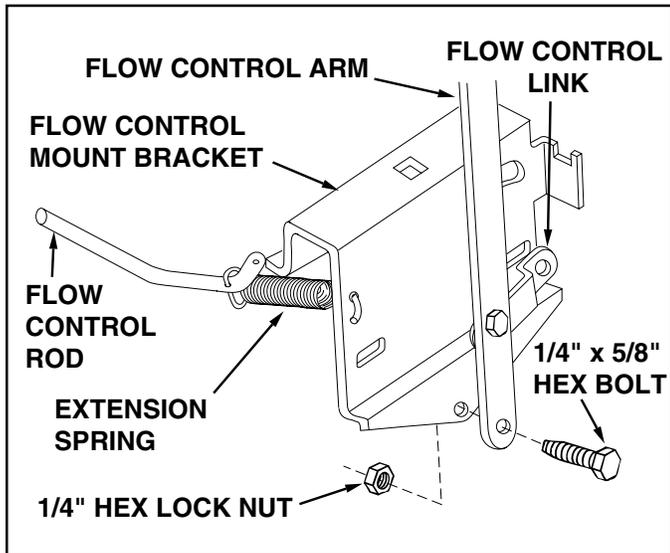

FIGURE 10
17. Assemble the flow control arm to the flow control mounting bracket using one 1/4" x 5/8" hex bolt and one 1/4" hex lock nut. See figure 10. **DO NOT OVER TIGHTEN.** The flow control arm must pivot freely.
18. Hook one end of the extension spring through the small hole near the bend in the flow control rod. Hook the other end through the hole in the flow control mounting bracket. See figure 10.